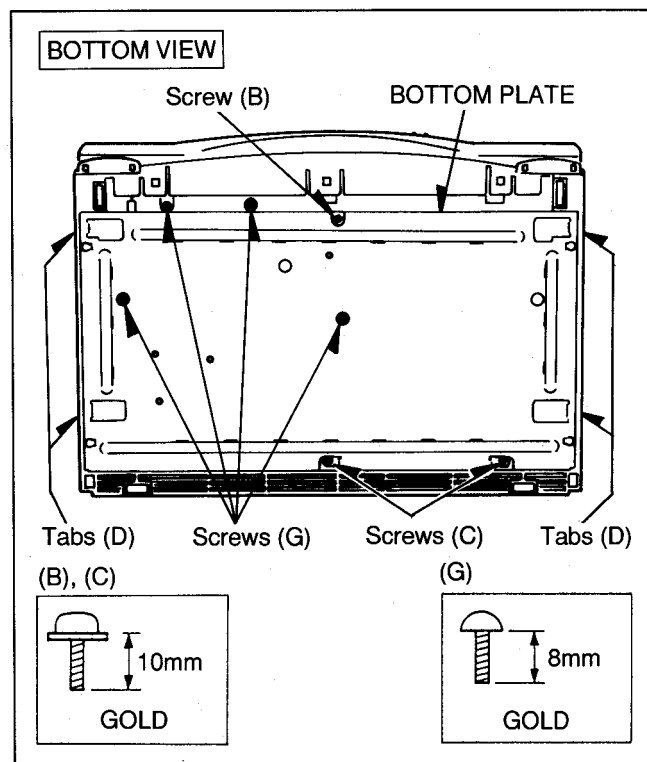

Fig. D3
Remove 3 Screws (G) [Fig. D3]
Remove 2 Screws (C) [Fig. D3]
- Remove..... 2 Screws (C) [Fig. D3]
- Remove..... 3 Screws (H)
- Remove..... Screw (I)
- Unlock Tab (J) and L/C PACK HOLDER
- Unlock 7 Tabs (K)